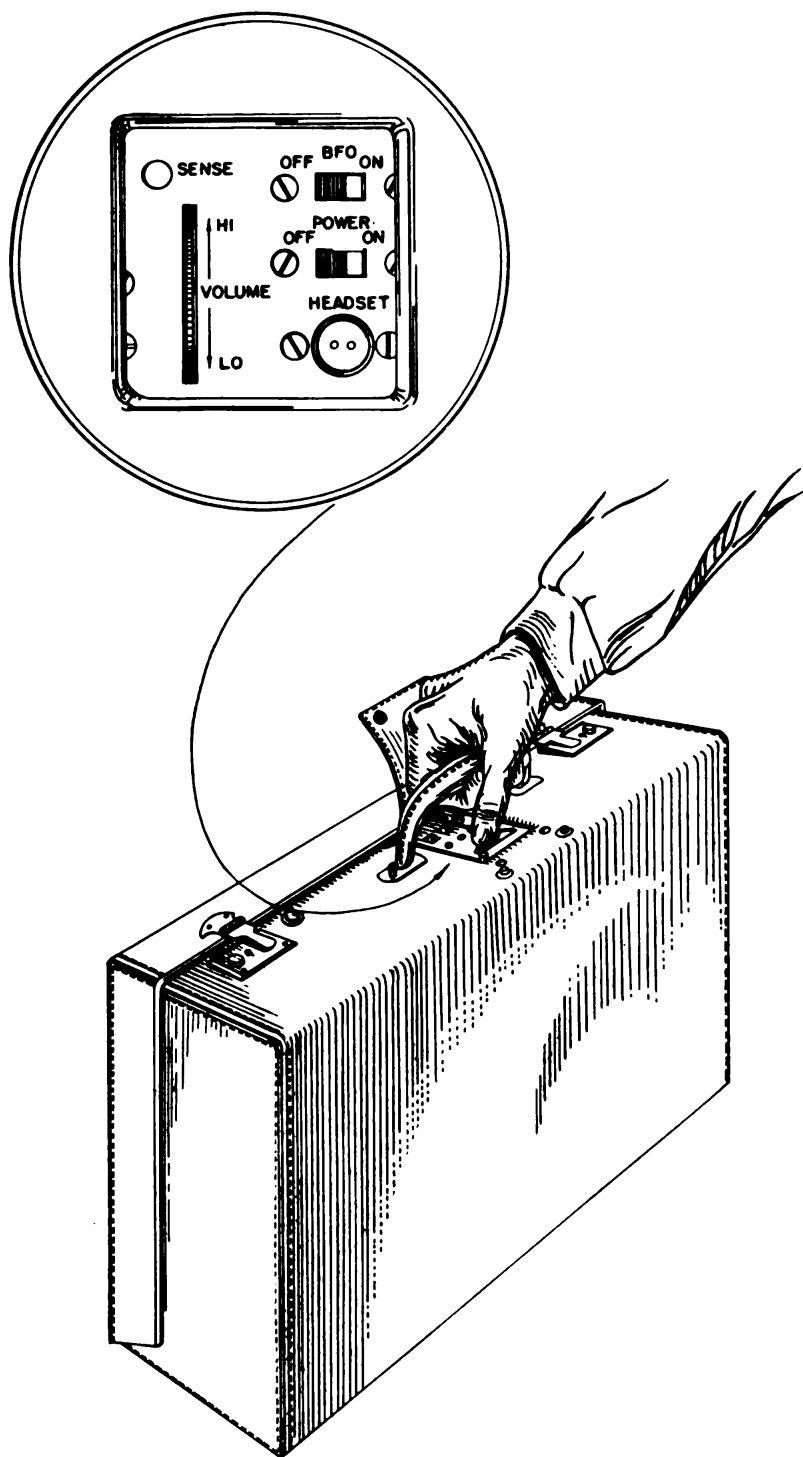

Figure 11. Top of Suitcase with the Flap Up Showing the Control Plate
*a.* Throw to ON, POWER switch which is mounted on control plate shown in figure 11.
*b.* Close lid of suitcase making sure you snap both latches and leave leather flap open—don't tuck it under the handle (see figure 11).
*b.* Throw the BFO switch on control plate under suitcase handle to ON (figure 11).